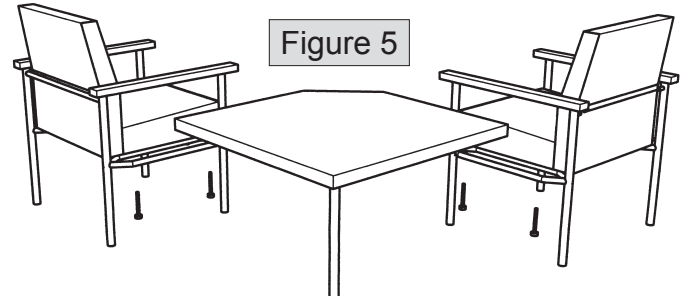

Figure 5
4. Connect tabletop to center leg frames using 1 1/2" Allen bolts into threaded inserts as shown in figure 5. Tighten securely.